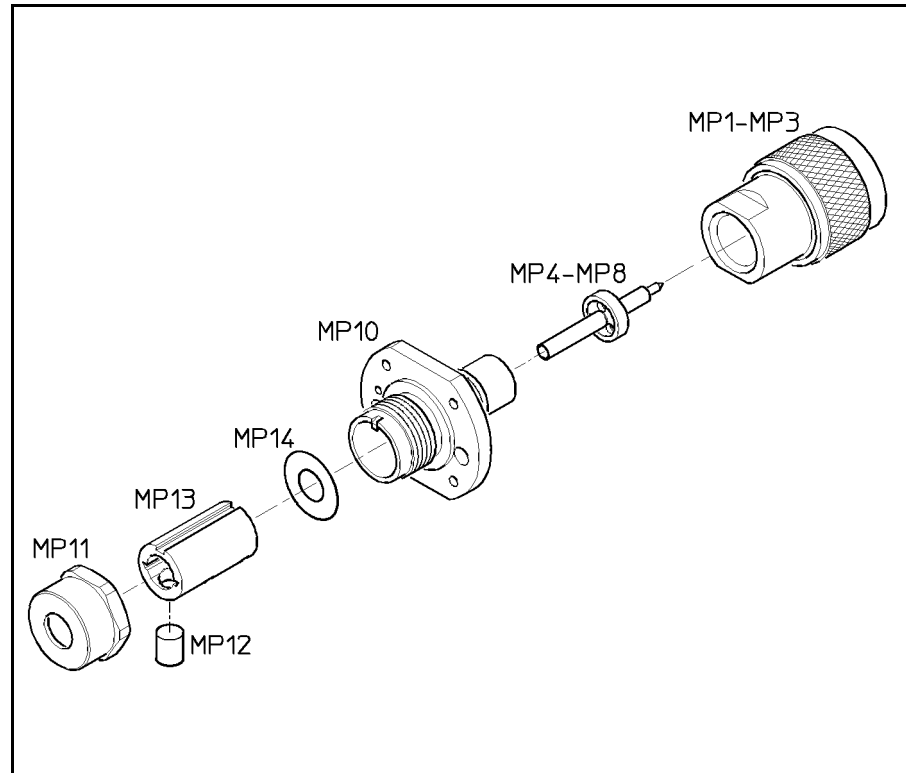

Figure 8. A1 Bulkhead Illustrated Parts Breakdown
7. Screw the bulkhead into the center pin assembly as shown in figure 8. Tighten in place to 50 ± 5 in-lbs (565 N·cm)
3. Position the Power Sensor as shown in figure 8 (top). The small hole **5** should be on the left side of the RF input connector. Remove the allen cap screws **1**, **2**, **10**, and **13**. Loosen **11** and **12**. Remove the upper chassis from the Power Sensor.